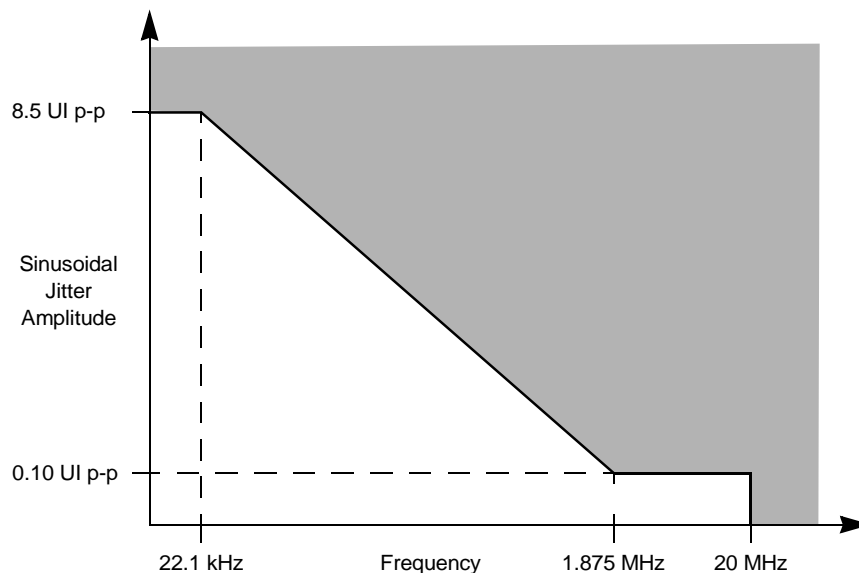

Figure 18. Single Frequency Sinusoidal Jitter Limits
2. Total jitter is composed of three components, deterministic jitter, random jitter, and single frequency sinusoidal jitter. The sinusoidal jitter may have any amplitude and frequency in the unshaded region of Figure 18. The sinusoidal jitter component is included to ensure margin for low frequency jitter, wander, noise, crosstalk, and other variable system effects.
1. See Figure 18 for single frequency sinusoidal jitter limits
2. Refer to RapidIO™ 1x/4x LP Serial Physical Layer Specification for interpretation of jitter specifications. Also see Figure 18 .